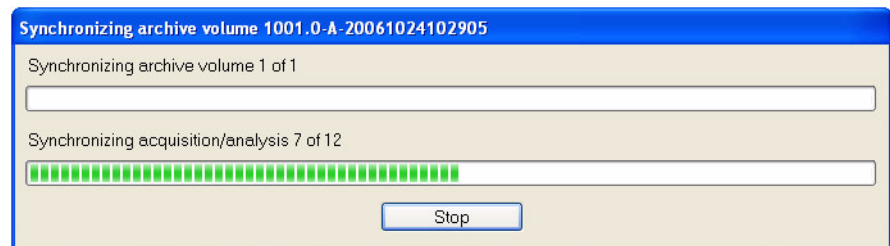

Figure 10-22 Synchronizing Archive Volume Dialog
4. A dialog is displayed showing the progress of the synchronization (Figure 10-22). Click **Stop** if you want to cancel.